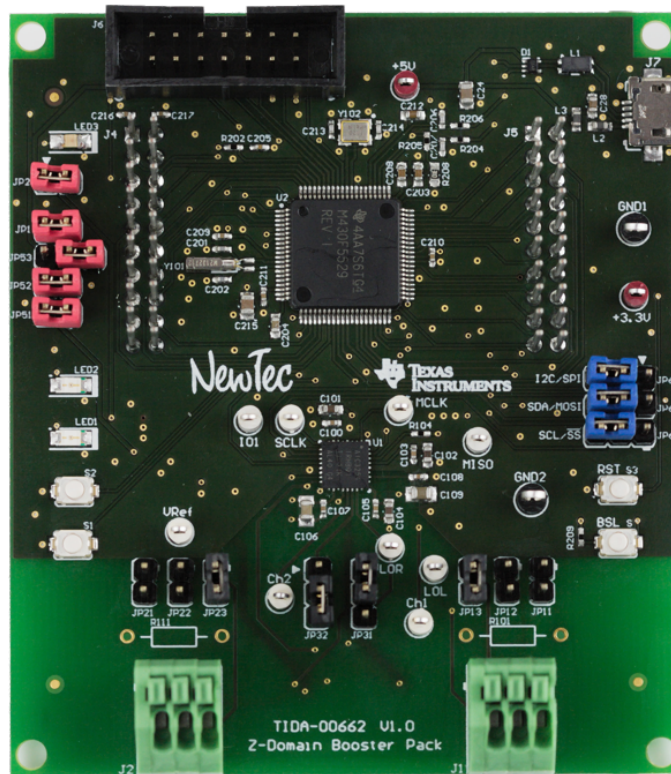

图 22. TIDA-00662 Board Overview
1. Check that the jumpers are in the right default position. 表 8 shows the necessary settings of the jumpers for starting the example code. The positions can be compared to the jumper positions in 图 22, also.